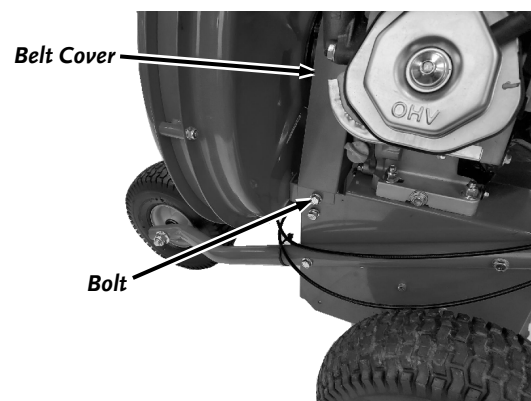

Figure 18
1. Remove the two Bolts that secure the Belt Cover using a 1/2" Wrench and remove the Cover (**Figure 18**).
7. Install the Belt Cover (**Figure 18**).